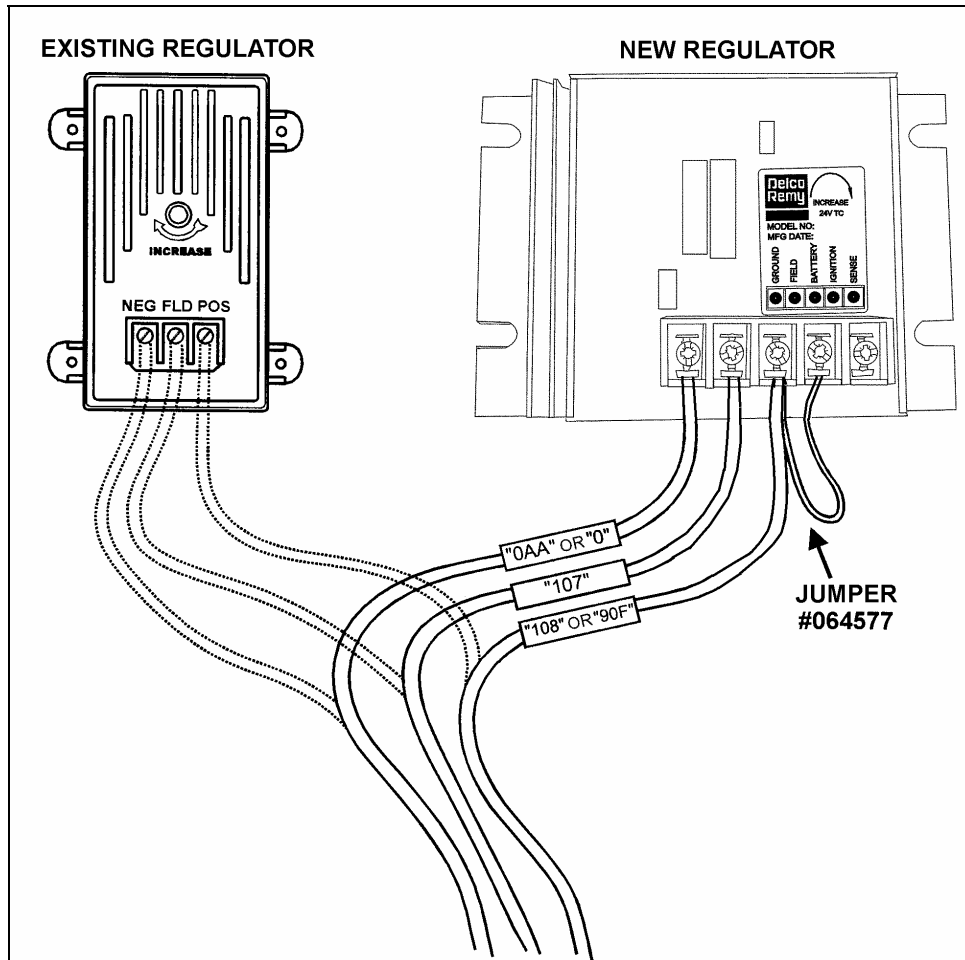

FIGURE 1
1. Identify at "NEG" terminal of existing regulator, the black wire identified "0AA" (or simply "0" on some vehicles), disconnect it then reconnect to "GND" terminal on new regulator. Tighten terminal screw to 12-15 Lbf-in (Refer to figure 1).
2. Identify at "FLD" terminal of existing regulator, the red wire identified "107", disconnect it then reconnect to "FLD" terminal on new regulator. Tighten terminal screw to 12-15 Lbf-in (Refer to figure 1).
3. Identify at "POS" terminal on existing regulator, the red wire identified "108" (or "90F" on some vehicles), disconnect it then reconnect to "BAT" terminal on new regulator. Do not completely tighten terminal screw (Refer to figure 1).
4. Install a jumper #064577 between "BAT" and "IGN" terminals as illustrated in figure 1 on reverse. Tighten terminal screws to 12-15 Lbf-in (Refer to figure 1).